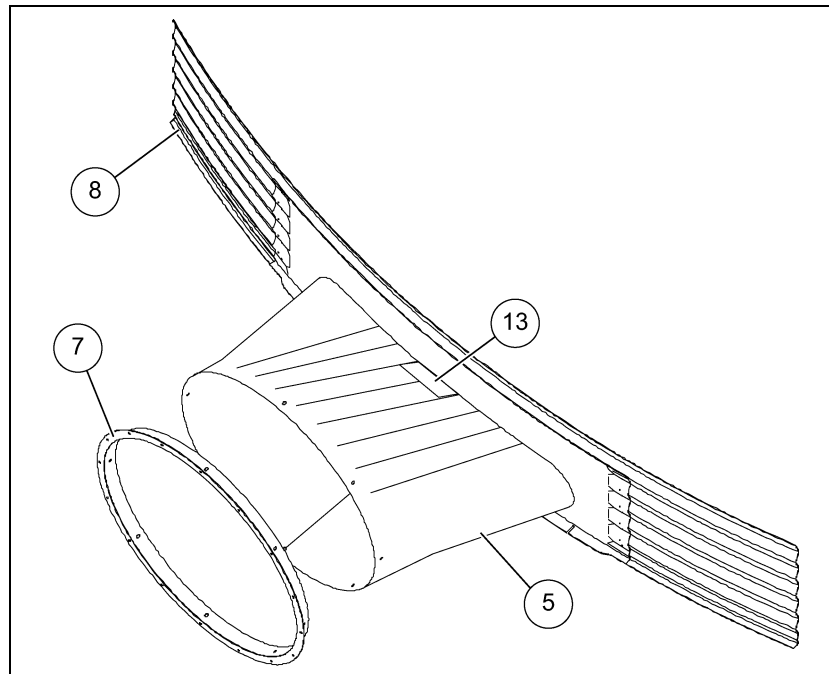

Figure 5
5. A hole must be cut in the top center of the transition housing. Mark a 7-1/4" x 8" wide opening for the stiffener to enter. Cut along the line. The bottom edge of the entrance collar will also need to be trimmed to provide clear access for stiffener. Place stiffener through transition housing and attach to sidewall. Be sure stiffener anchor is located on anchor bolt. Place washer and nut on anchor bolt and tighten. (See Figure 5 on Page 3.)